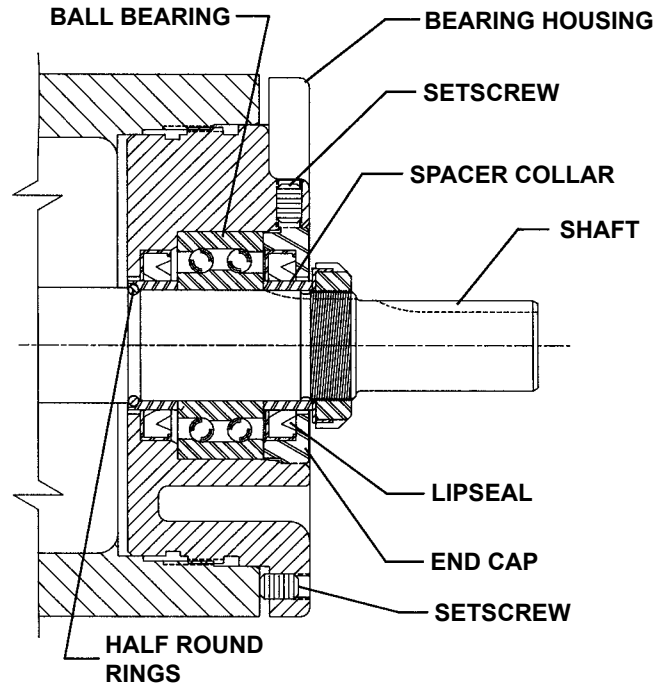

FIGURE 9
4. Loosen two setscrews in the face of the bearing housing and remove the bearing housing assembly from the bracket. Refer to Figure 9.